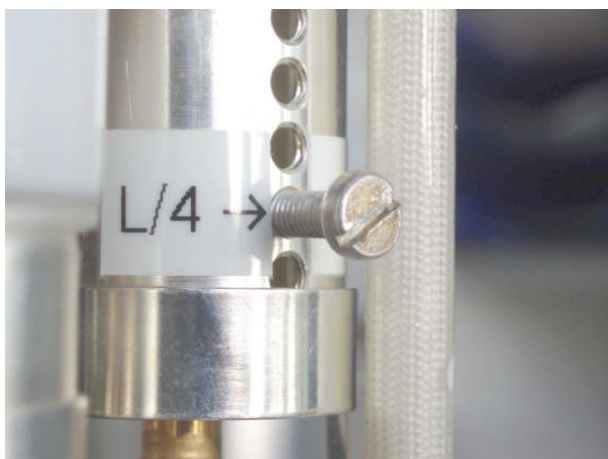
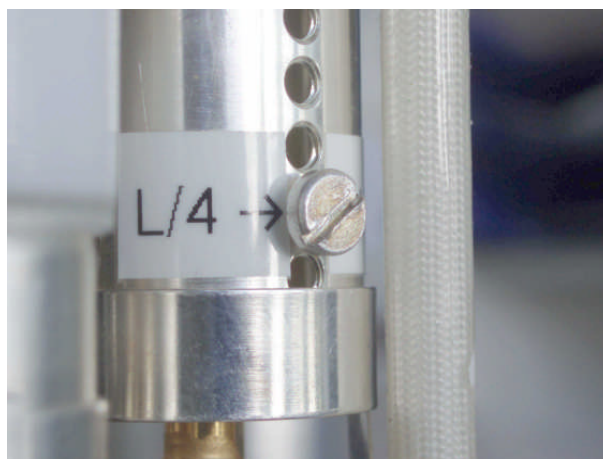
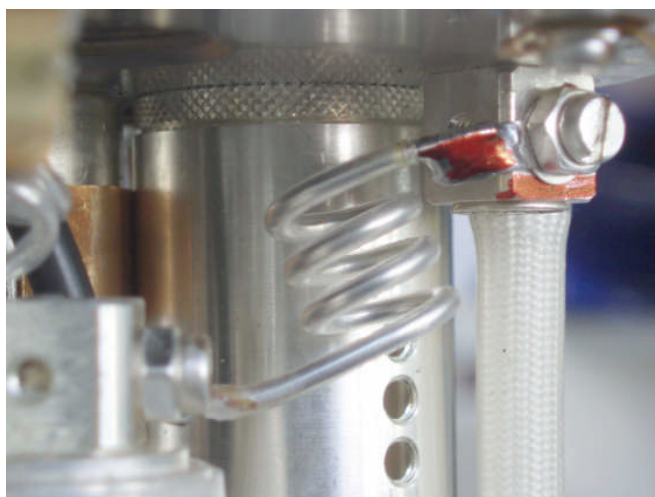

fig.1: $\lambda/2$ -mode → screw out (loosen)
fig.2: $\lambda/4$ -mode → screw in
fig.3: range coil position (only for ^{31}P)
2. In case of operating in $\lambda/2$ -mode, e.g. $^{13}\text{C}/^1\text{H}$, or experiments in the upper X-range (**144...253MHz**) it is necessary to open the *short circuit screw* (at the $\lambda/2$ -tube of the ^1H -channel, see fig. 1, below) and additionally fix a rangecoil only for ^{31}P as shown in fig 3. In the other case in $\lambda/4$ -mode, e.g. $^{15}\text{N}/^1\text{H}$, or experiments in the lower X-range (**52...194MHz**), use the marker at the $\lambda/2$ -tube and *carefully turn in* this screw until one has contact with the inner conductor of the $\lambda/2$ -line, see fig. 2, below.